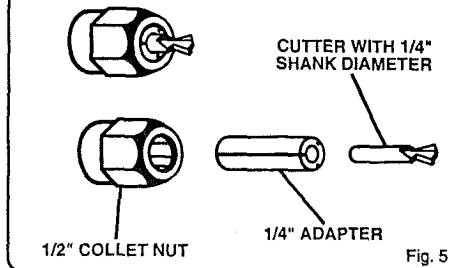

Fig. 5
6. The collet is machined to precision tolerances to fit cutters with 1/2" diameter shanks. If using a cutter with a 1/4" diameter shank, place the 1/4" adapter provided in the collet. See Figure 5.